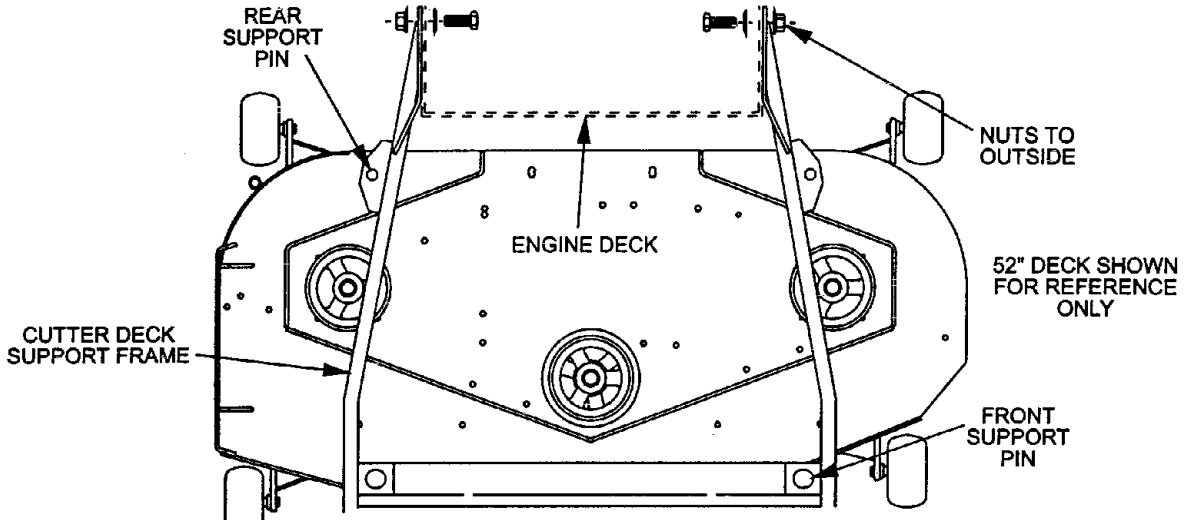

FIG. 2
3.3.2 Remove cutter deck support frame from cutter deck by removing the two large hairpins and washers from the front deck support pins and by removing the two small hairpins and washers from the rear deck support pins (See Figure 2).
Align and re-install the cutter deck support pins into the support frame. Install the two large washers and hairpins onto the front support pins and the two smaller hairpins and washers onto the rear support pins (See Figure 2).